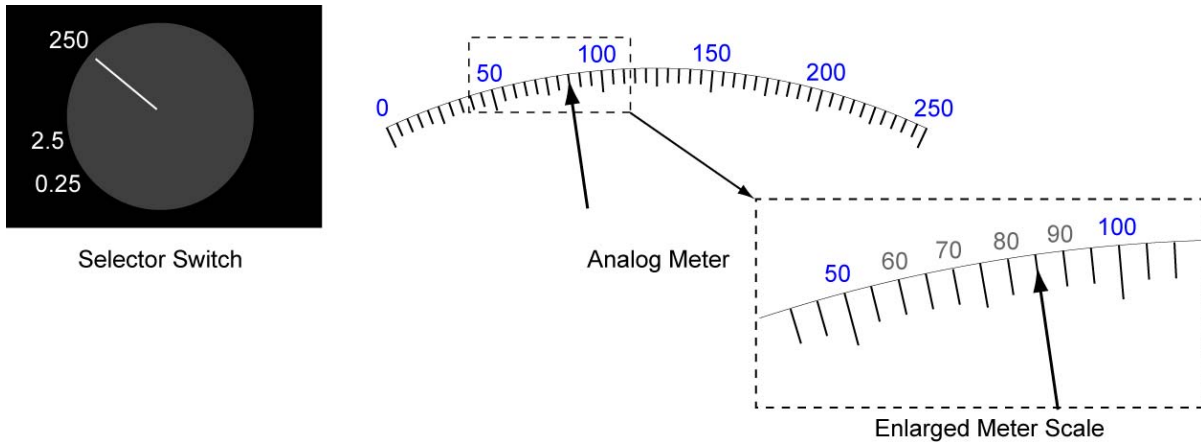

Figure 5: Reading Analog Meter Example 1
- Analog Example 1: In Figure 5, the selector switch and the meter scale are both at the 250 maximum reading. The measurement can be read directly from the meter. The enlarged insert demonstrates the grey values that are mentally added between 50 and 100 to arrive at the reading of 85.